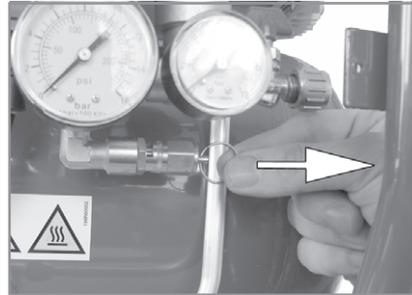

Figure 6
2. Check the operation of the safety valve, under pressure daily, by pulling the ring as shown in figure 6. Air should be released you pull the ring and stop when the ring is released.